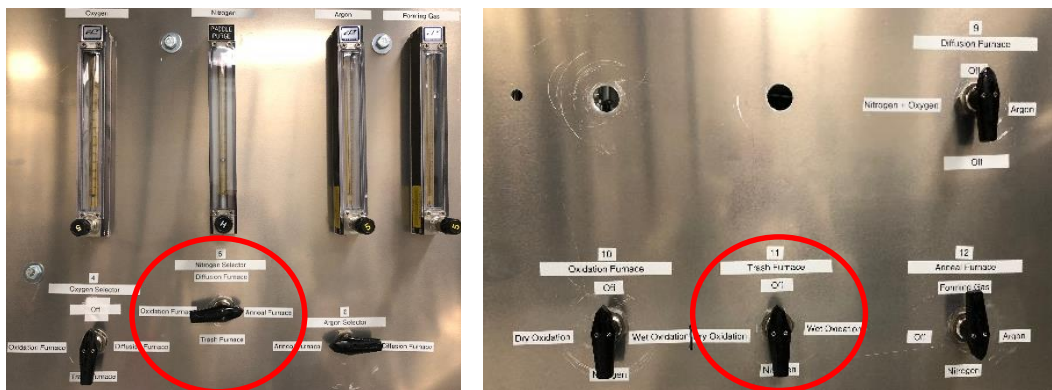

Figure 3
2. On the gas distribution panel set up the Nitrogen Selector (5) to the Trash Furnace, and the Trash Furnace Selector (11) to the Nitrogen (Figure 3).
3. Set the Oxygen Selector (**4**) to the Trash Furnace, then set the Trash Bubbler (**8**) to the Wet Oxidation position, and choose Wet Oxidation on Trash Furnace selector (**11**) (Figure 3).